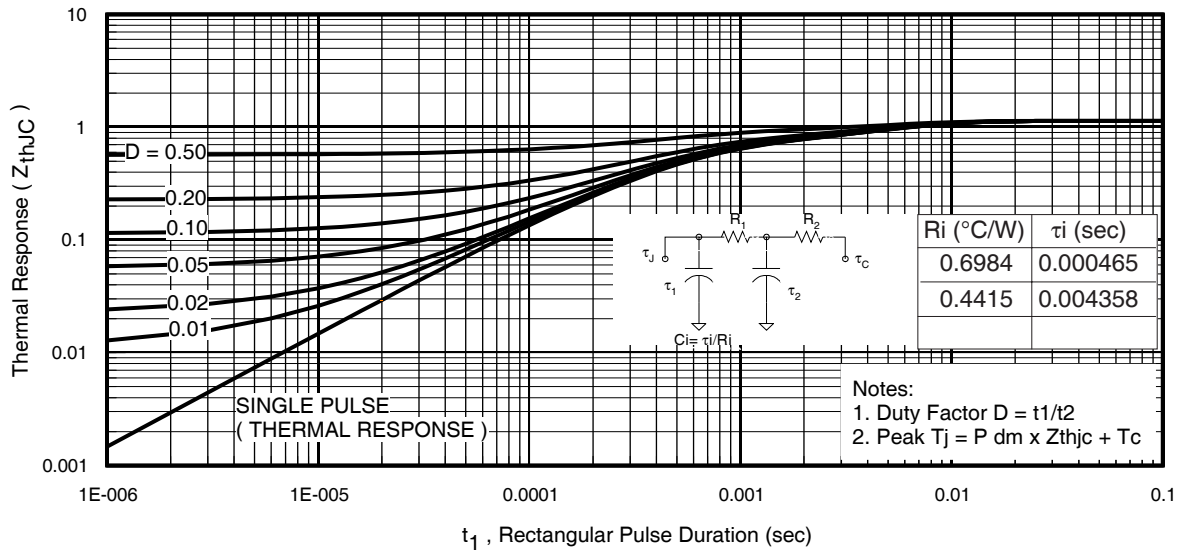
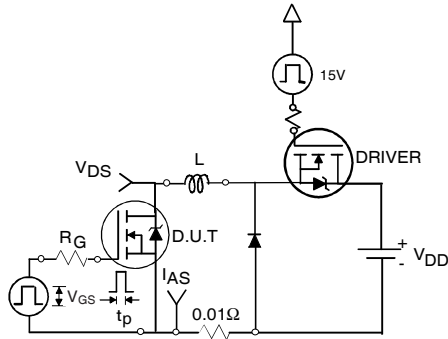

Fig 11. Maximum Effective Transient Thermal Impedance, Junction-to-Case
Fig 12a. Unclamped Inductive Test Circuit
3. Equation below based on circuit and waveforms shown in Figures 12a, 12b.
$Z_{thJC}(D, t_{av})$ = Transient thermal resistance, see figure 11)
- ① Repetitive rating; pulse width limited by max. junction temperature. (See fig. 11).
- ② Limited by T_{Jmax} , starting $T_J = 25^\circ C$, $L = 0.12mH$, $R_G = 25\Omega$, $I_{AS} = 42A$, $V_{GS} = 10V$. Part not recommended for use above this value.
- ③ Pulse width $\leq 1.0ms$; duty cycle $\leq 2\%$.
- ④ C_{oss} eff. is a fixed capacitance that gives the same charging time as C_{oss} while V_{DS} is rising from 0 to 80% V_{DSS} .
- ⑤ Limited by T_{Jmax} , see Fig.12a, 12b, 15, 16 for typical repetitive avalanche performance.
- ⑥ This value determined from sample failure population. 100% tested to this value in production.
- ⑦ When mounted on 1" square PCB (FR-4 or G-10 Material). For recommended footprint and soldering techniques refer to application note #AN-994
- ⑧ R_θ is measured at T_J approximately $90^\circ C$